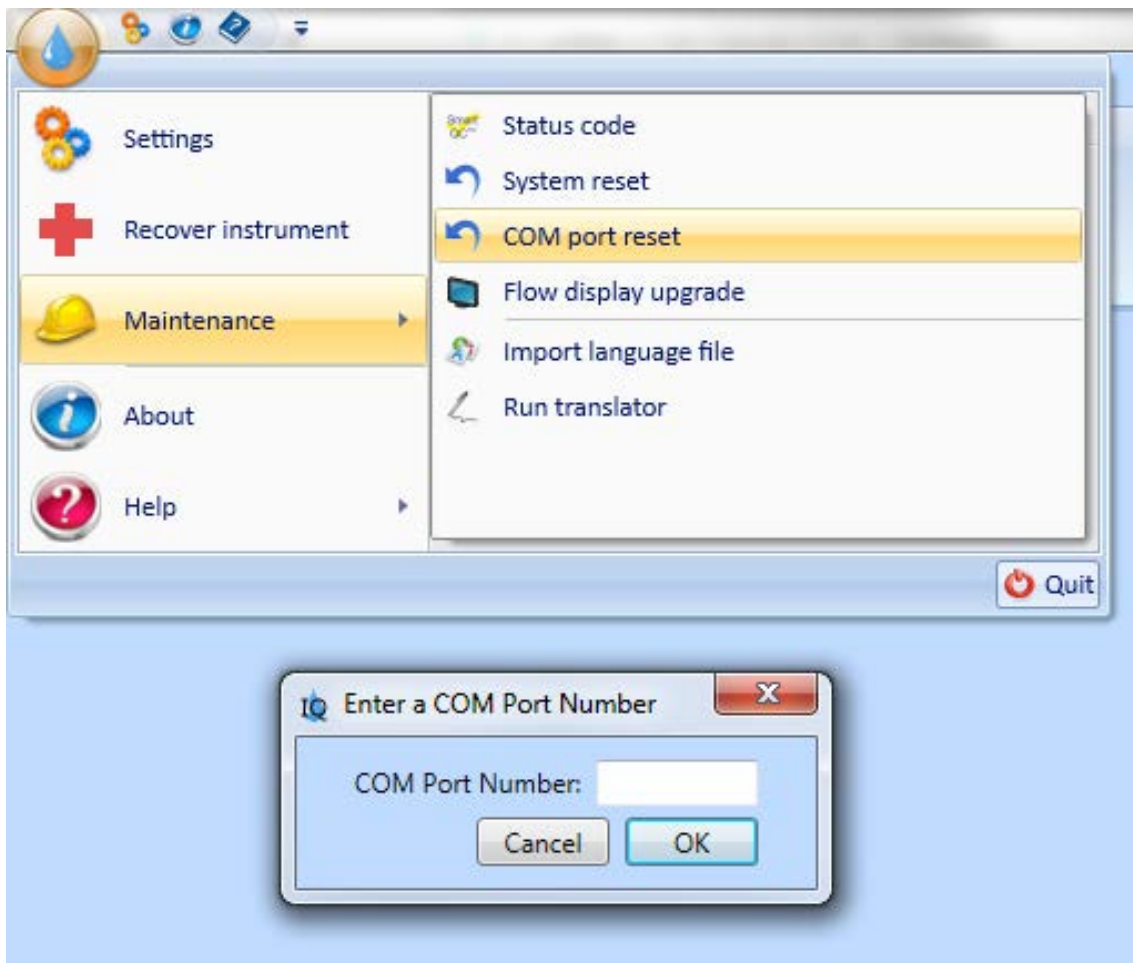

Figure 101. IQ System and COM Port Reset Function
- The System Reset function can also be found in the Maintenance menu accessed from the IQ icon in the upper left corner of the software (Figure 101).